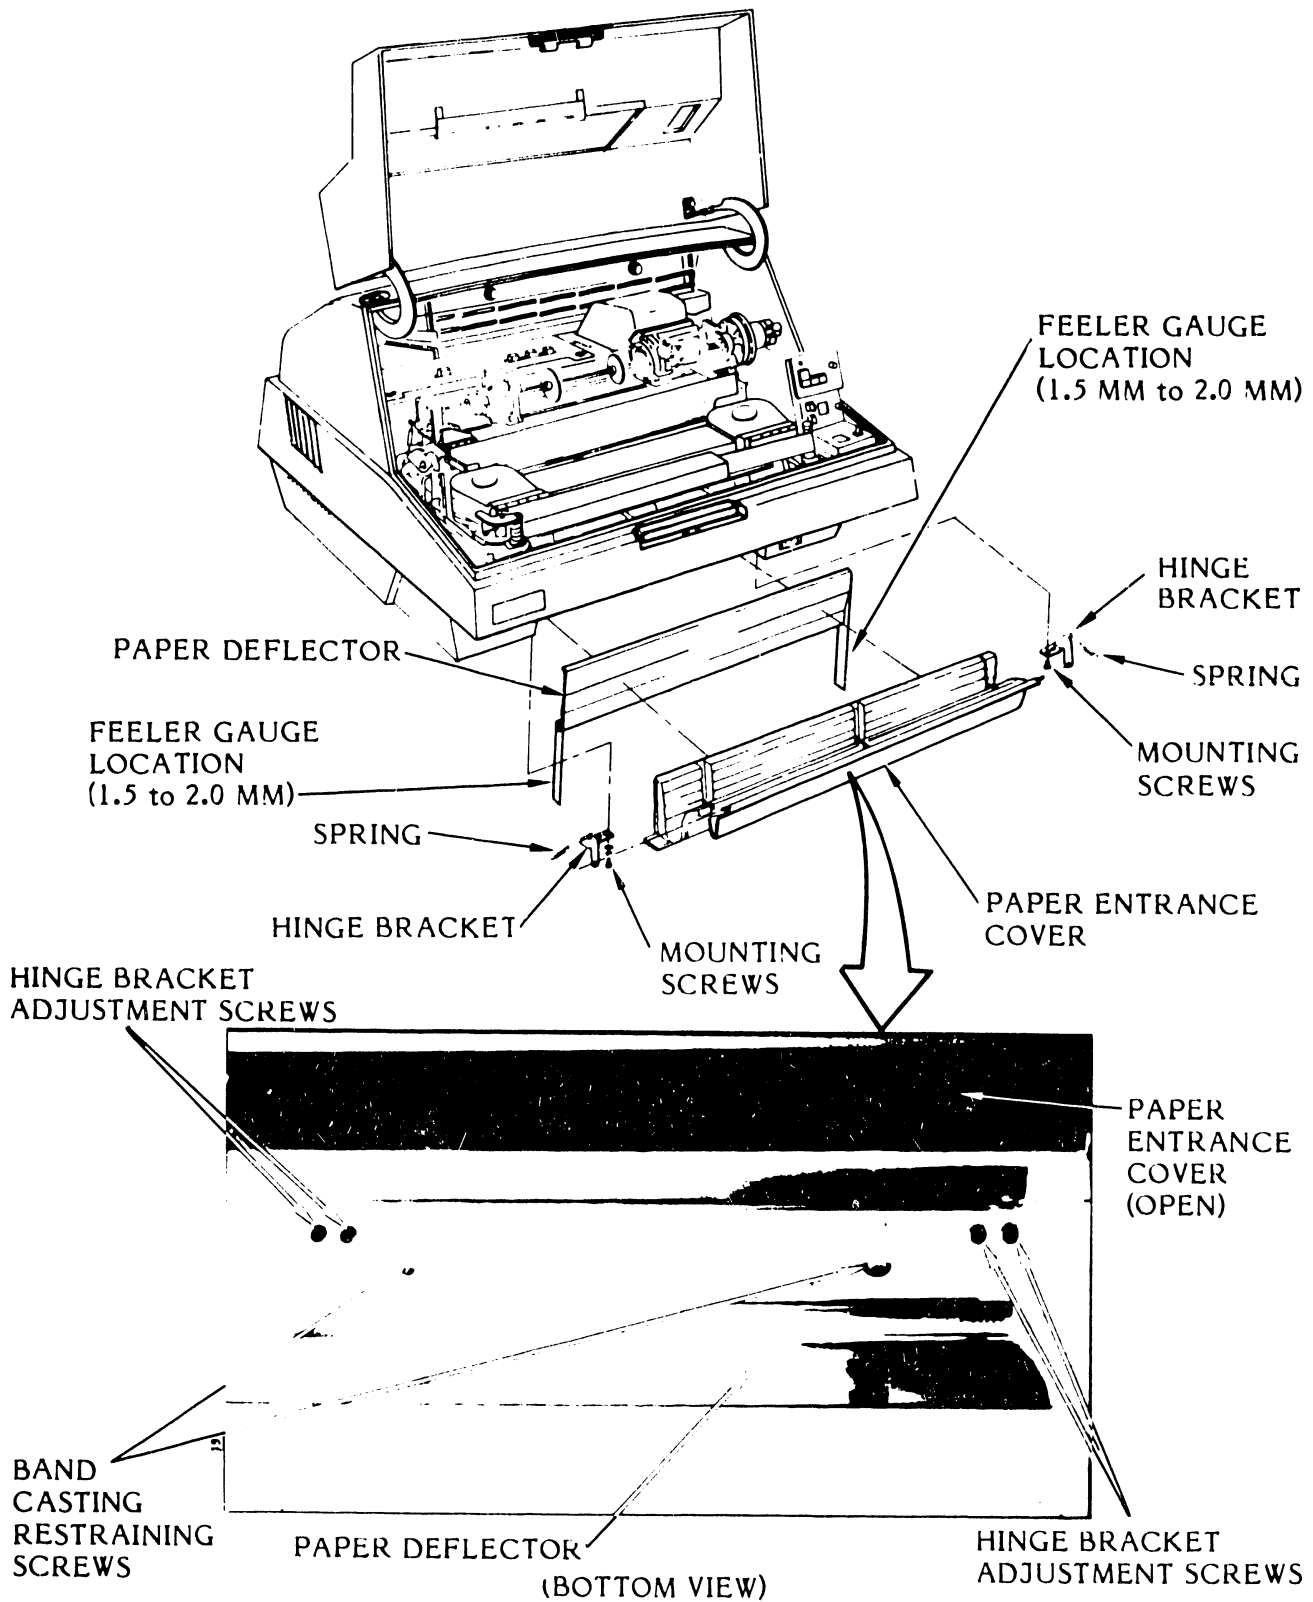

Figure 3-53. Paper Entrance Cover Parts Location
3.6.9 Paper Entrance Cover Assembly Adjustment (Figures 3-53, 3-54)
- c. Using a 1.5 mm to 2.0 mm feeler gauge, check the spacing between each side of the deflector and the printer base assembly (see figure 3-53).